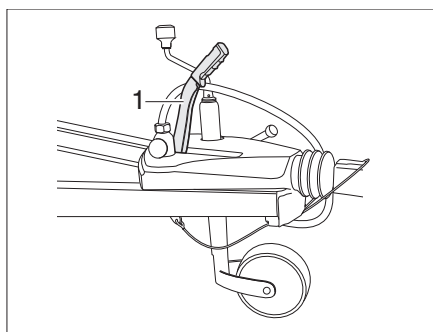

Fig. 13 Handbrake
- To release, pull the brake lever (Bild 13,1) up and then lower it.